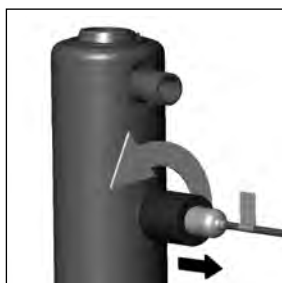

Figure 6
3. Unscrew the sensor from the sensor port in the side of the reactor (Figure 6).